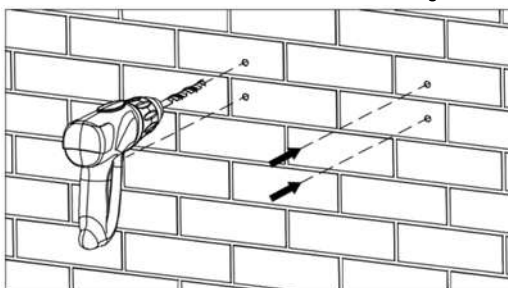

Figure 4.7 Drilling
- (2) Drill 4 installation holes on the wall with electric drill. As shown in Figure 4.7.